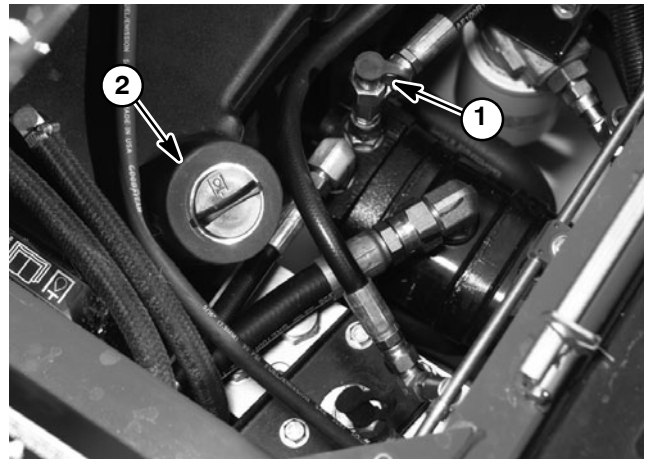

Figure 28
3. Raise seat to gain access to hydraulic test fitting. Connect a 5,000 psi gauge to lift circuit test port (Fig. 28). Route gauge hose to allow seat to be safely lowered.